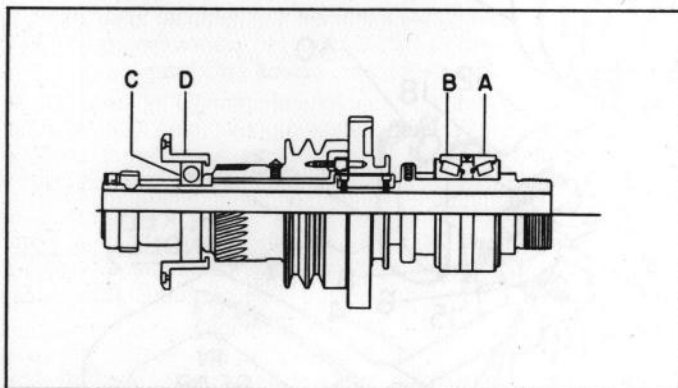

Figure 5
The spindle is mounted in the headstock on two precision preloaded tapered roller bearings and one sealed for life ball bearing. The roller bearings (A and B) as shown in Figure 5, carry the radial and thrust loads and the ball bearing (C) floats in the bearing seat (D) Figure 5, thus compensating for the expansion and contraction of the spindle as it warms up and cools down. The roller bearings are placed close enough together on the spindle so that the amount of expansion and contraction between the bearings is negligible.